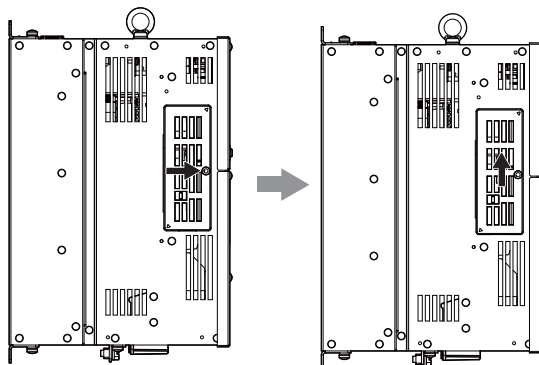

Figure 4.28 Sliding the Connector Cover
2. Slide the connector cover from the drive as shown in Figure 4.28.